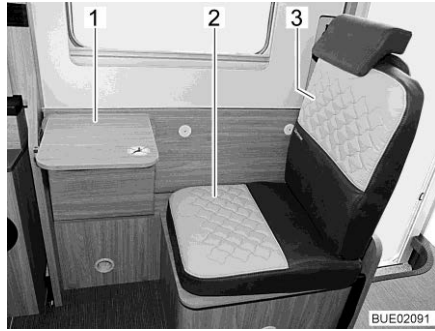
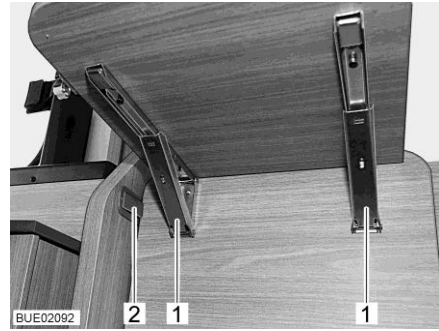

Fig. 28 Additional seat with folding table
Fig. 29 Catches on the folding table
- Attach the included seat cushion (Fig. 28,2) and the back cushion (Fig. 28,3).
- Swing the divan's front part upwards until it engages in the plastic catch (Fig. 29,2).
- Folding the table top away: Unlock both catches (Fig. 29,1) and swing table top (Fig. 28,1) downwards.